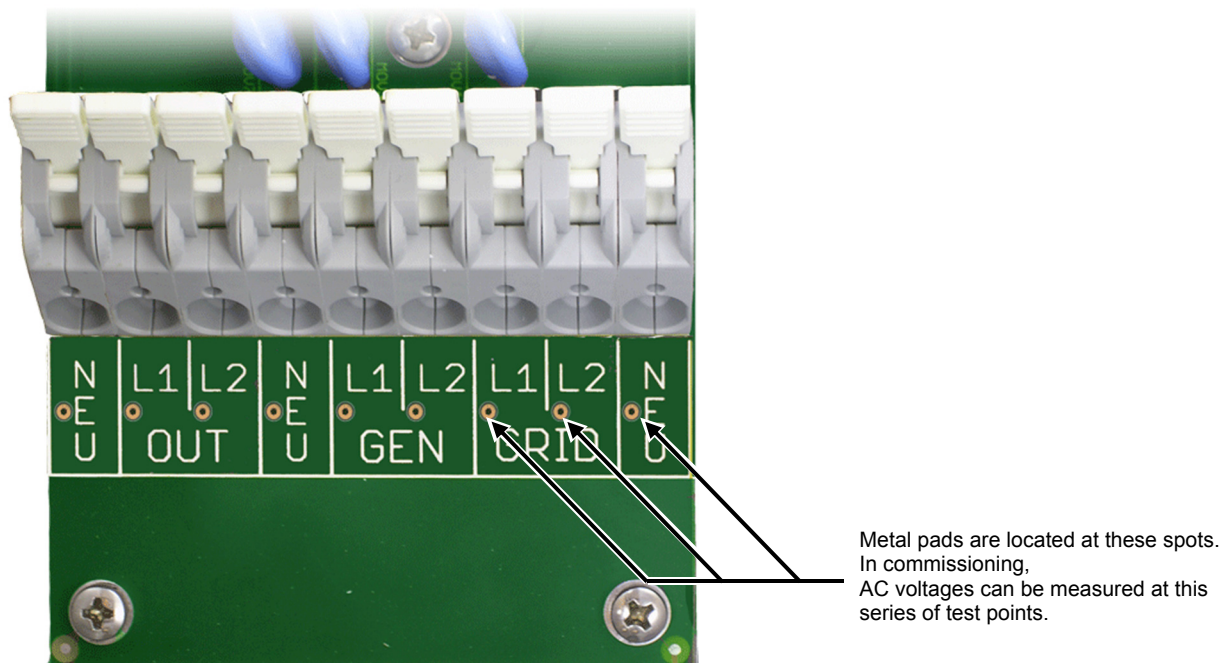

Figure 34 AC Test Points
4. Using a DVM, verify 120 Vac (or appropriate voltage) between the **L1** and **N OUT** terminals, and between the **L2** and **N OUT** terminals. (See Figure 34 for AC test points.) The inverter is working correctly if the AC output reads within 10% of 120 Vac or the programmed output voltage.